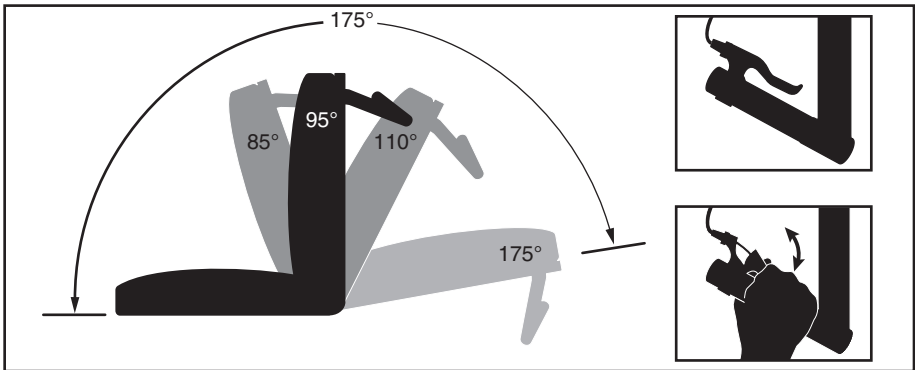

Figure 22. Minimum and Maximum Recline Angles
If your TRU-Balance® 3 Power Positioning System is equipped with the Manual Recline Option, you can adjust the seatback to angles ranging from the minimum recline position (85° from the seat base) to the maximum recline position (175° from the seat base). **See figure 22.** When the seat is reclined past 110°, the chair will be in full inhibit. Returning the seat to an angle of less than 110° will restore power to the motors.
2. Squeeze the recline release handle, and position the seatback to the desired angle. **See figure 22.**